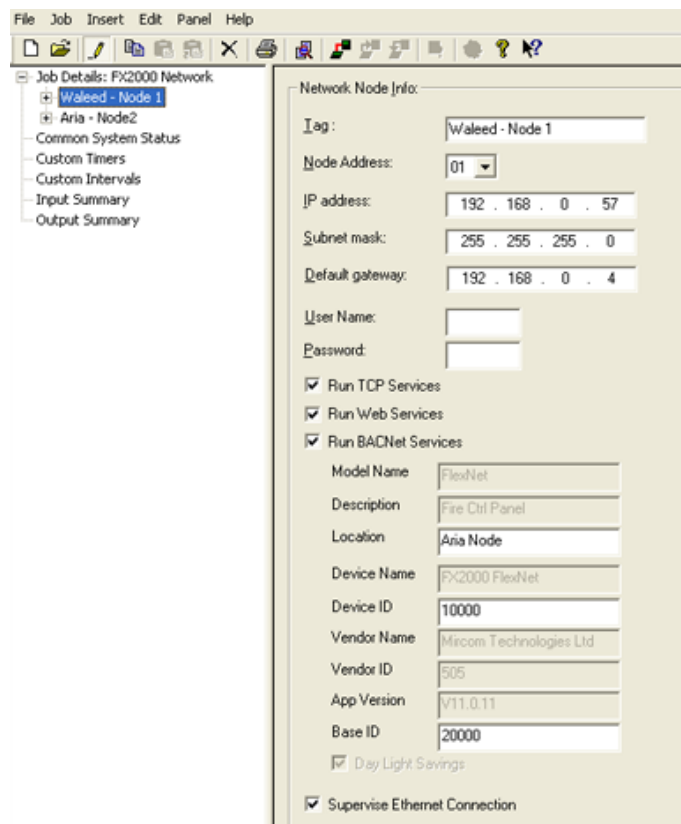

Figure 111 Flex-Net™ Configurator Set to Supervise Ethernet Connection
- Ethernet connection must be supervised in configuration software as shown in Figure 111.